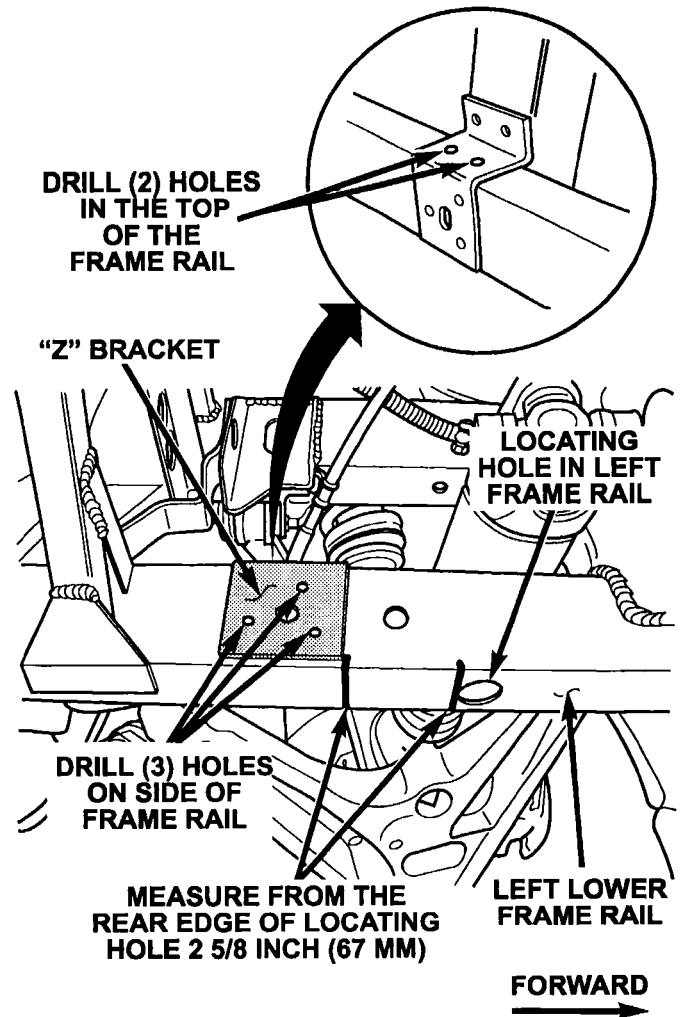

Figure 41
2. On the left lower frame rail, measure 2 5/8 inches (67 mm) rearward from the rear edge of the frame locating hole and draw a line across the bottom of the frame (Figure 41).
3. Place the “Z” bracket on the frame as shown in Figure 41. Clamp the “Z” bracket into place.
4. Using the “Z” bracket as a template, drill two 1/4 inch (6.35 mm) holes in the top side of the lower frame rail (Figure 41).
8. Using the “Z” bracket as a template, drill the remaining three 1/4 inch (6.35 mm) holes into the side of the frame (Figure 41).